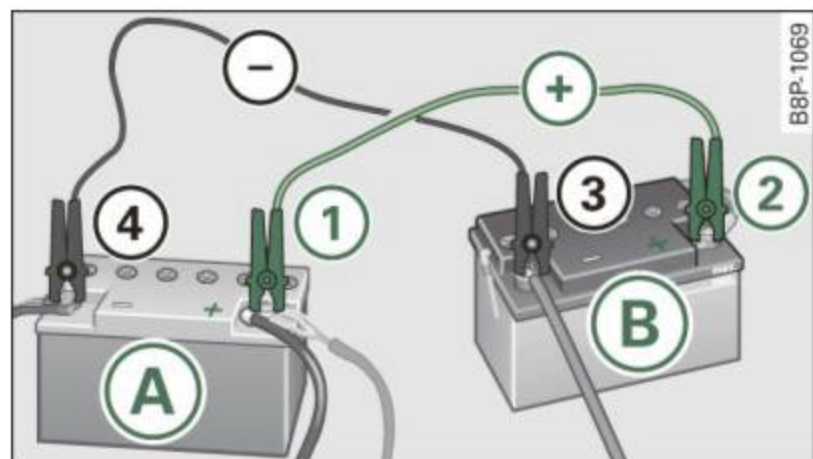

Fig. 217 Jump-starting with the battery of another vehicle: A – discharged vehicle battery, B – booster battery
If you provide start assistance for others with your vehicle, you should not clamp the minus cable (-) to the negative terminal of the discharged battery ⇒ *page 314, fig. 217 ④* but to a solid metal part screwed firmly to the engine block, or to the engine block itself. In case of an inadequately ventilated battery of the vehicle receiving power, there is a danger of explosion due to detonating gas! ■
4. Connect one end of the red jumper cable to the positive terminal (1) ⇒ fig. 217 of the discharged battery (A) ⇒ ⚠ in "General information of starting assistance" on *page 313*.
5. Connect the other end of the red jumper cable to the positive terminal (2) of the booster battery (B).
6. Connect one end of the black jumper cable to the negative terminal (3) of the booster battery (B).
7. Connect the other end of the black jumper cable to the negative terminal (4) of the discharged battery (A).
- Please note that the procedure for connecting a jumper cable as described above applies specifically to the case of your vehicle being jump started. When you are giving a jump start to another vehicle, do *not* connect the minus (-) cable to the minus (-) terminal on the discharged battery ④ ⇒ *page 314*, fig. 217. Instead, securely connect the minus (-) cable to either a massive metal component that is firmly bolted to the engine block or to the engine block itself. If the battery that is being charged does not vent to the outside, escaping battery gas could ignite and explode! ■
4. Connect one end of the red jumper cable to the positive terminal (1) ⇒ *page 314*, fig. 217 in the external starting point (A) of your vehicle ⇒ ⚠ in "General information of starting assistance" on *page 313*.
7. Connect the other end of the black jumper cable to the negative terminal (bolt head) (4) in the external starting point (A) of your vehicle.
- Please note that the procedure for connecting a jumper cable as described above applies specifically to the case of your vehicle being jump started. When you are giving a jump start to another vehicle, do *not* connect the minus (-) cable to the minus (-) terminal on the discharged battery ④ ⇒ *page 314, fig. 217*. Instead, securely connect the minus (-) cable to either a massive metal component